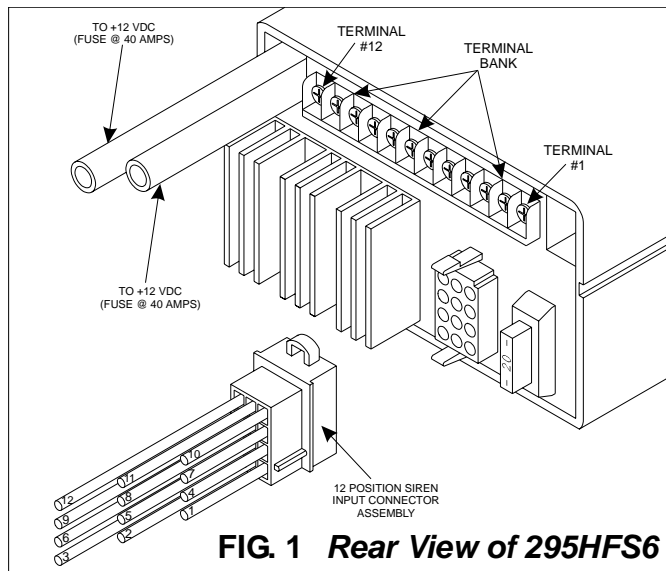

FIG. 1 Rear View of 295HFS6
4. Insert the wiring harness into it's port as shown in Fig. 1.